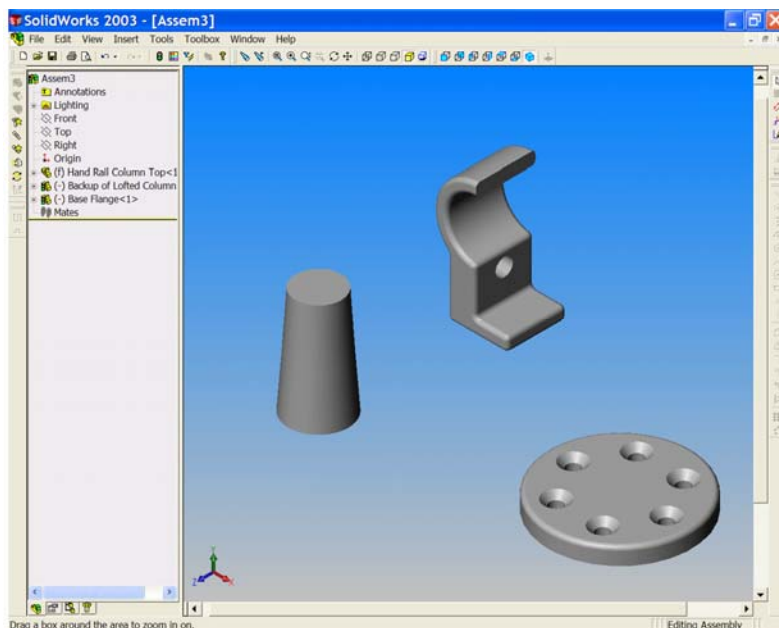

Figure 11
27. Maximise the assembly window. To see the parts more clearly choose '**Isometric**' . See figure 11.